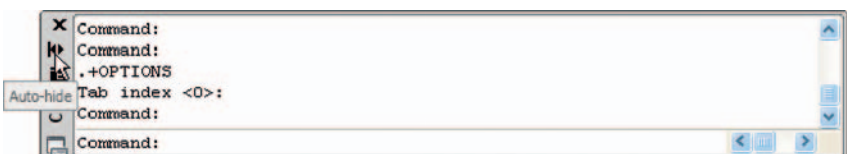

Fig. 1.6 The command palette when dragged from its position at the bottom of the AutoCAD window
**Command palette**: Can be *dragged* from its position at the bottom of the AutoCAD window into the AutoCAD drawing area, when it can be seen to be a palette (Fig. 1.6). As with all palettes, an **Auto-hide** icon and a right-click menu is included.